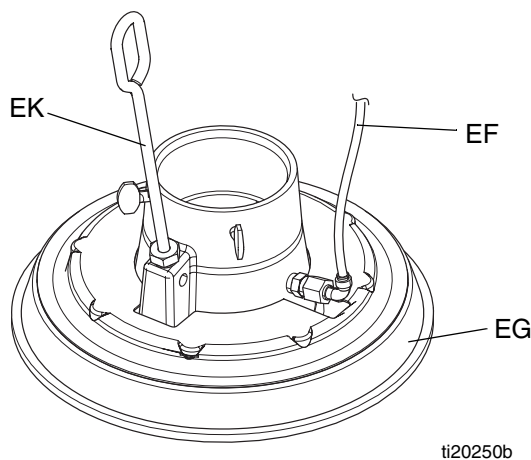

FIG. 10
See FIG. 10. If the platen does not come out of the pail easily when the pump is being raised, the air assist tube (EF) or air assist check valve may be plugged, or the bleed stick (J) may not be tightened. A plugged air assist check valve prevents air from reaching the underside of the plate to assist in raising it from the pail. If the bleed stick is not tightened no pressure will build.
1. Follow the **Pressure Relief Procedure** on page 10. Refer to platen parts illustration on page 29 and disassemble air assist check valve (414) as shown.
2. Clear air assist tube (EF) in platen. Clean all parts of air assist check valve (414) and reassemble.
3. Remove bleed stick (J) from platen. Push bleed stick through bleed relieve ports to remove material residue.